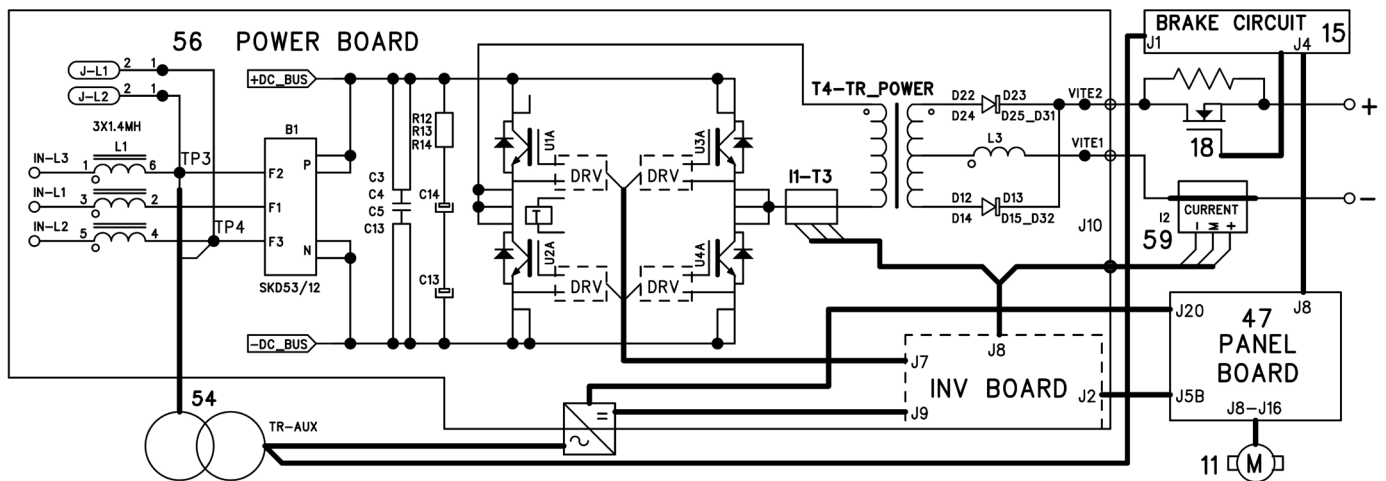

Fig. 2.3.1 (Item no 564)
More specifically, in the power board (56) it is possible to identify (fig. 2.3.1):
- the IGBT inverter, which generates square wave alternating voltage for power transformer T4, also fitted to power board (56);
- see Fig. 2.3.1 and connectors map, Section 5.7:
- 27 VAC for the power supply of SRS module (15)
- 220 VAC, supplied by an intermediate socket of the primary winding of service transformer (54), for supplying the cooling unit, through socket (15) on the power source rear panel.